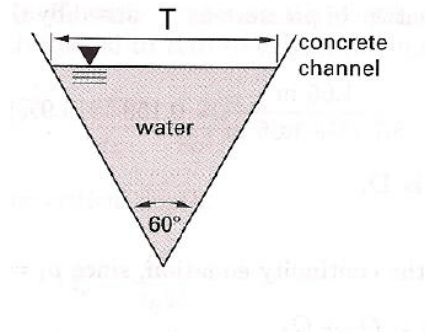

Figure 1: Triangular channel.
- (A)  $Q_{75\%} = 16.9$  cfs
- (B)  $Q_{75\%} = 18.2$  cfs
- (C)  $Q_{75\%} = 20.1$  cfs
- (D)  $Q_{75\%} = 27.5$  cfs
- (E)  $Q_{75\%} = 32.3$  cfs
- (F)  $Q_{75\%} = 31.7$  cfs
- (G)  $Q_{75\%} = 34.1$  cfs
- (H)  $Q_{75\%} = 34.5$  cfs
5. (8 pts.) A triangular V-shaped channel is depicted in Figure 1. The channel's dimensionless slope in the direction of flow is 0.008. Manning's  $N$  for the channel is  $n = 0.012$ . The flow width at the surface is  $T = 2$  meters.2